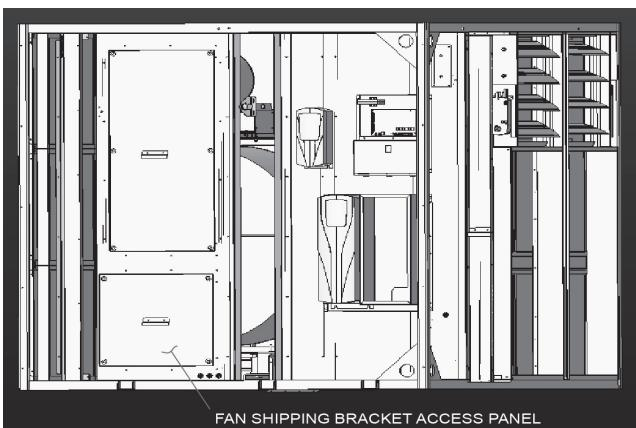

Fig. 41 — Fan Shipping Bracket Access Panel
7. Crawl through the wheel to gain access to the shipping bracket access panel, See Fig. 41.